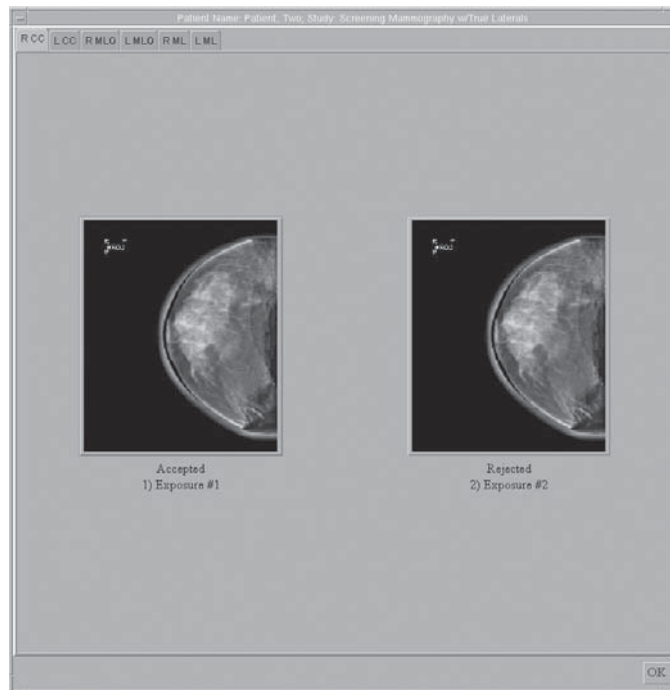

Figure 3-34: Accept Rejected Image
3. Click the Accepted Image (Figure 3-34). The Preview screen displays.